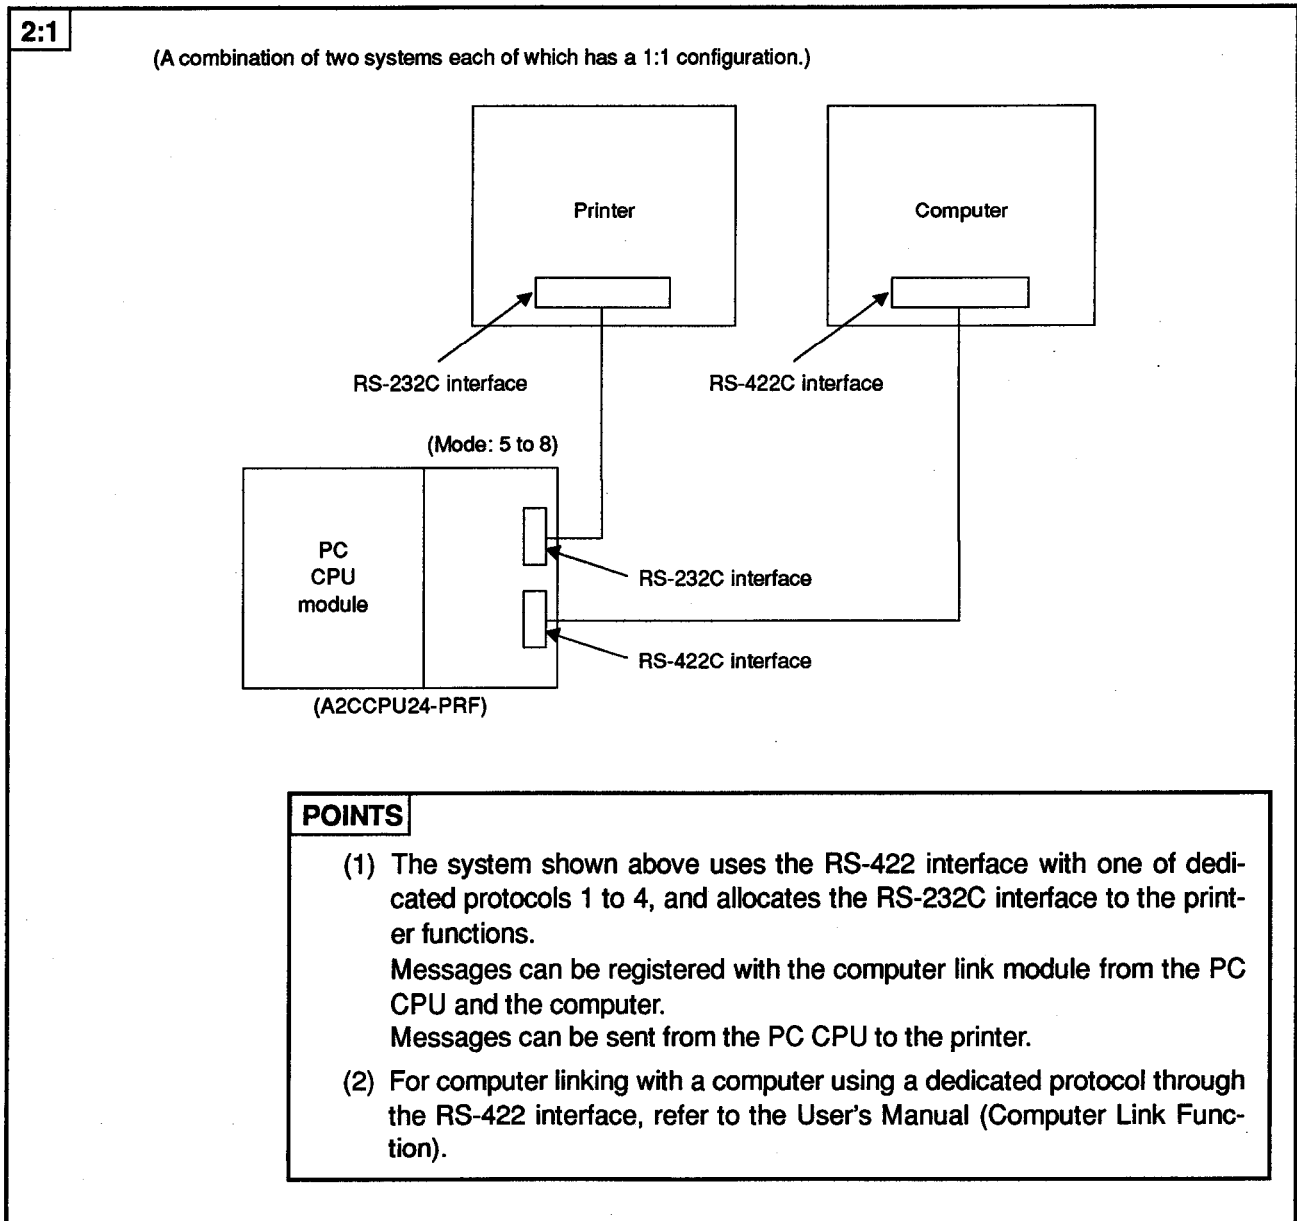

Fig. 14.2 System Configurations (II)
- (1) The system configuration for a 2:1 ratio of a computer and a printer to a PC CPU is shown in Fig. 14.2 below.